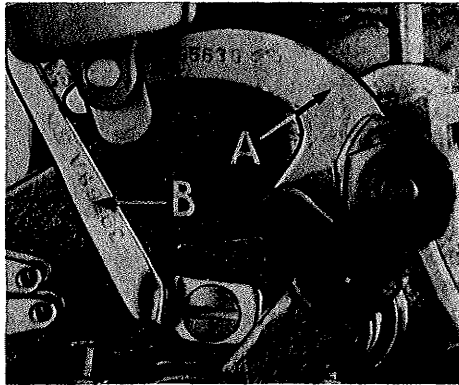

Fig. 5
If needle thread cam pull-off (A, Fig. 5) overlaps looper thread pull-off (B), separate by moving looper thread pull-off back. When re-tightening looper pull-off screw, be sure to take up end play in needle driving arm.